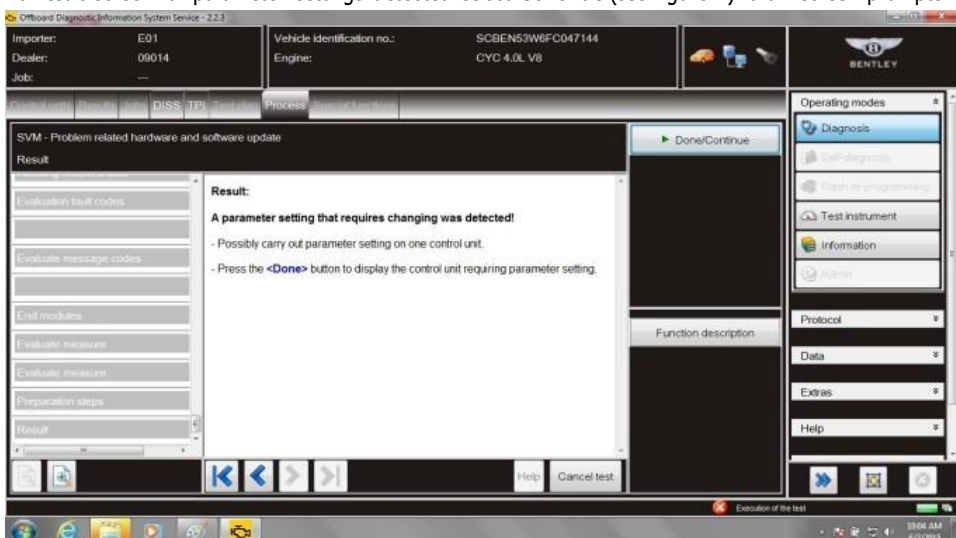

Figure 8
18. Once parameter that requires changing is detected select Done/Continue (see Figure 8)